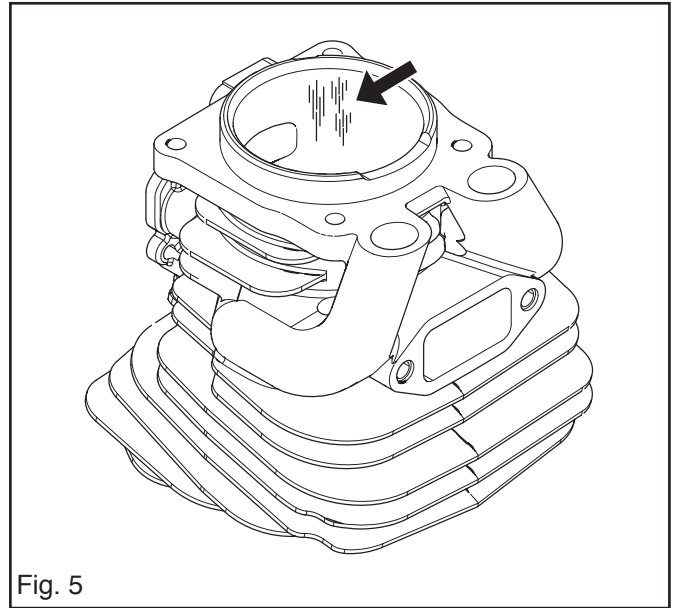

Fig. 5
2. That the cylinder is free of score marks. See fig. 5.